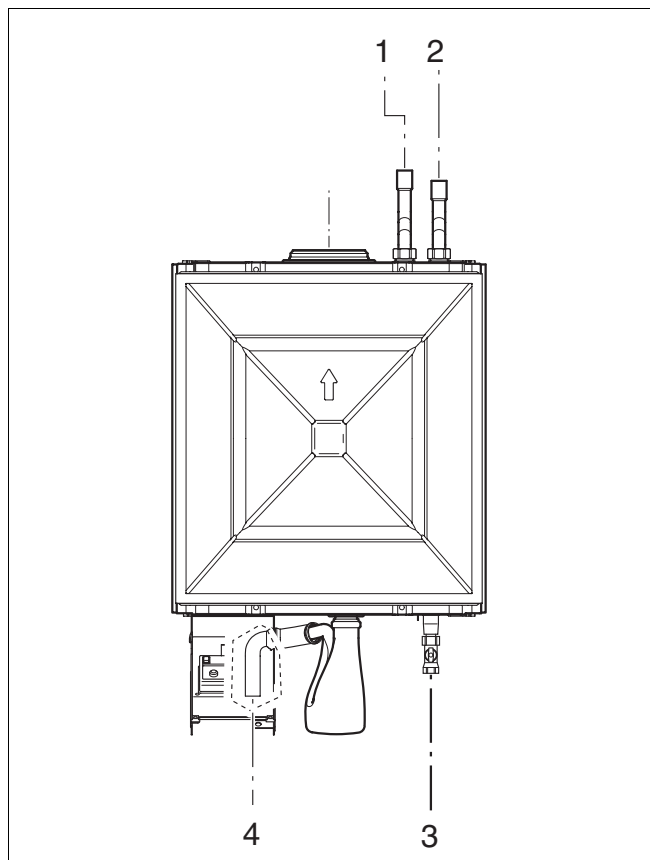

Fig. 7 Pipe connections
- A gas service valve is supplied with the unit. Take it out of the box and connect it to the boiler see fig. 7, item 3 with P.T.F.E.-tape. Connect to gas supply according to the relevant standards.
- Take the CH flow connection pipe and the CH return connection pipe out of the box and connect to the condensing gas boiler see fig. 7, item 1 and 2.
Key to fig. 7: